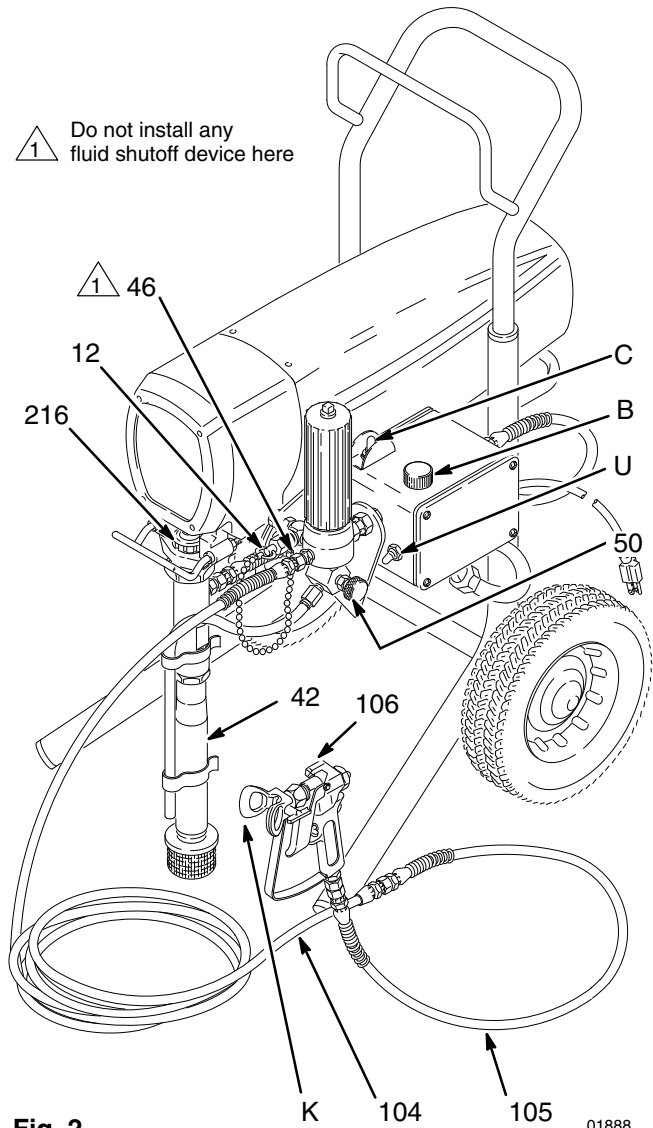

Fig. 2
3. Never install any shutoff device between the filter and the hose. See Fig. 2.
Startup (Fig. 2)